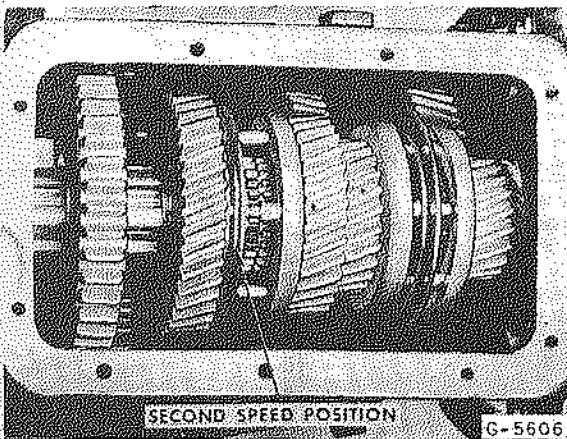

Fig. 6 - Synchronizer Positions With Transmission in Second Gear
pressure of the shift fork (16, Fig. 1) on the synchronizer sliding clutch (29), moves the clutch against the shoulders of the three pins extending from the inner stop ring (26). This pressure causes the inner stop ring to press against the second speed gear (25). The turning speed of the synchronizer assembly will become equalized with the second speed gear. As soon as both units are turning the same speed, the pressure of the shift fork will continue to completely engage the sliding clutch with the second speed gear (Fig. 6). The driving torque is thereby delivered through the synchronizer sliding clutch and on out the mainshaft.